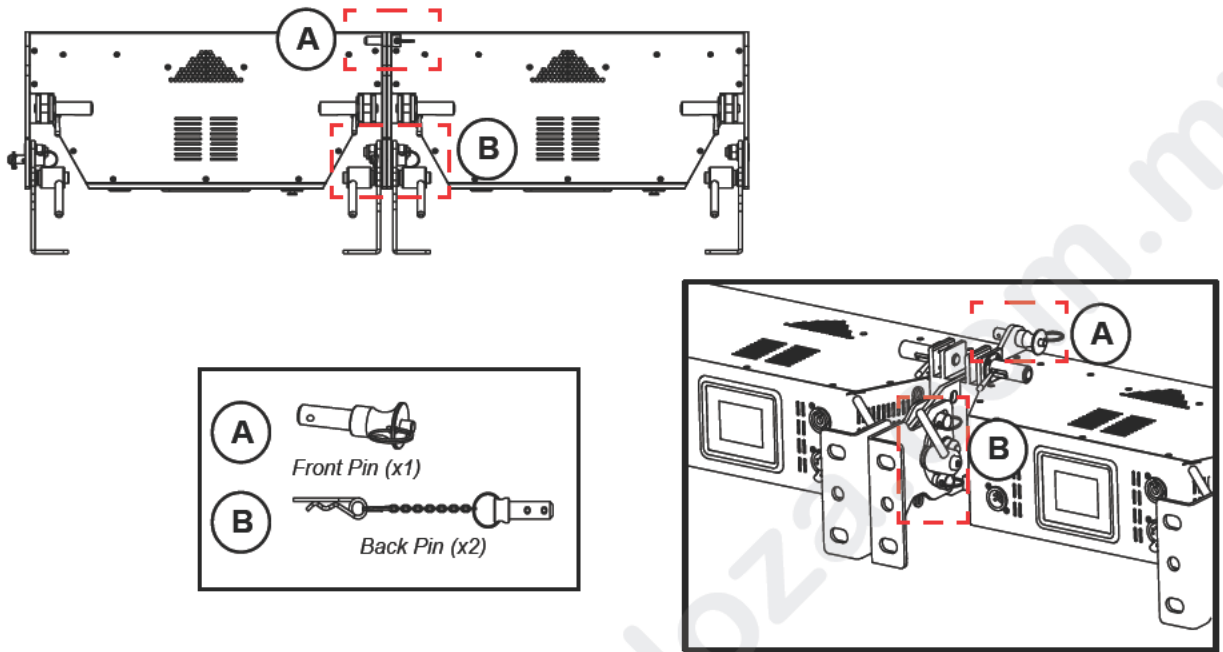

Figure 9: Connecting Luminaires Side-to-Side
Each SL NITRO 510 LED STROBE Luminaire ships with three Luminaire Connecting Pins as indicated in **Figure 9**. All three pins are used to connect two luminaires together linearly. Each fixture must be mounted using its own mounting hardware. The side-to-side pins are only to align the luminaires and do not provide hanging support.
- Each SL NITRO 510 LED STROBE Luminaire and SL BAR 520 RGBW Luminaire ships with three Luminaire Connecting Pins as indicated in **Figure 9**.